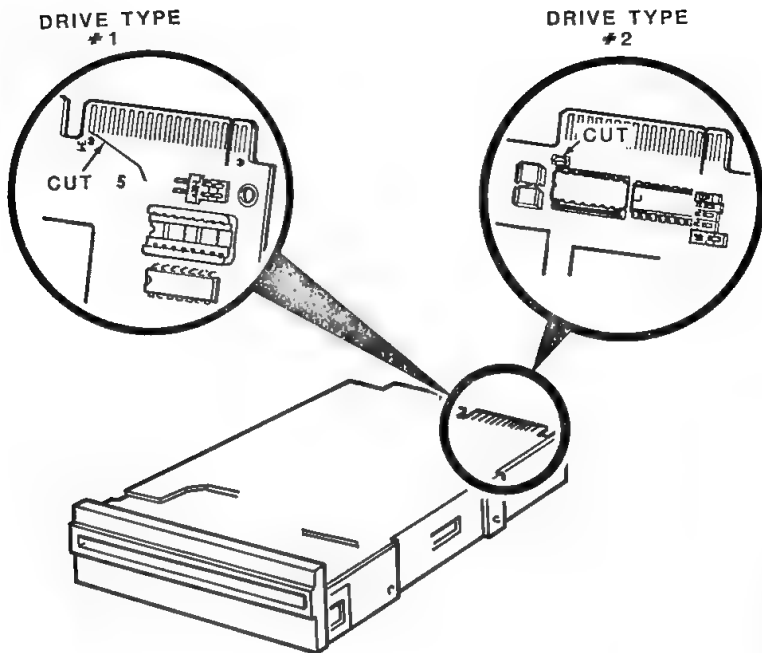

Figure 5-9: 360K Floppy Hardware Configuration
**NOTE:** The floppy drive connected to the last connector on the interface cable will always be drive A. In addition, a terminating resistor pack must be installed on the last drive attached to the interface cable (Figure 5-9). Viewed from the front of the computer, the floppy interface cable connectors should be attached to the floppy drives with the marked end of the cable facing to the right.
Refer to Figure 5-9 during the following discussion.